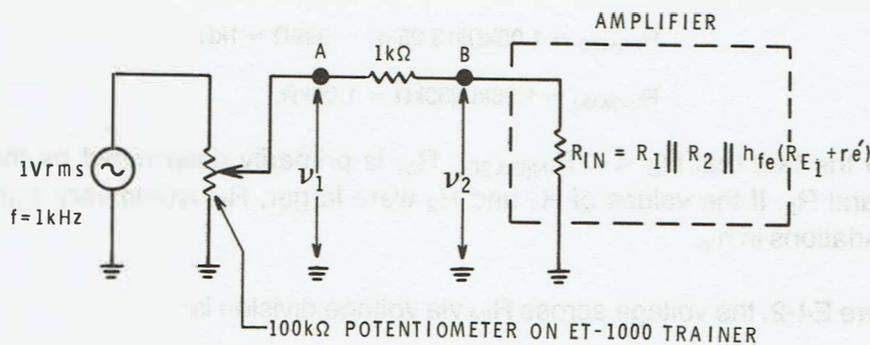

Figure E4-2
20. Insert a $1\text{k}\Omega$ resistor in series with the amplifier input lead as shown in Figure E4-2. Note that the amplifier acts like a resistance equal to R_{IN} when viewed from the signal source.
In Figure E4-2, the voltage across R_{IN} via voltage division is: